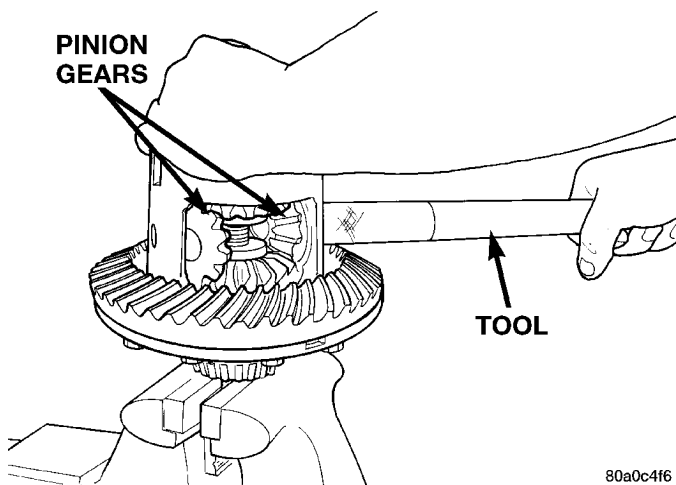

Fig. 62 Pinion Gear Removal
(11) Insert Turning Bar C-4487-4 in case (Fig. 62).
(12) Loosen the Forcing Screw C-4487-2 in small increments until the clutch pack tension is relieved and the differential case can be turned using Turning Bar C-4487-4.
(13) Rotate differential case until the pinion gears can be removed.
(14) Remove pinion gears from differential case.